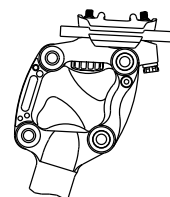

Figure 5
- Insert the new elastomer in the linkage pockets. Be sure to orient the elastomer properly. The concave cuts should be on the top and bottom enabling clearance for the front clamp bolt on the underside of the cradle. (figure 5)